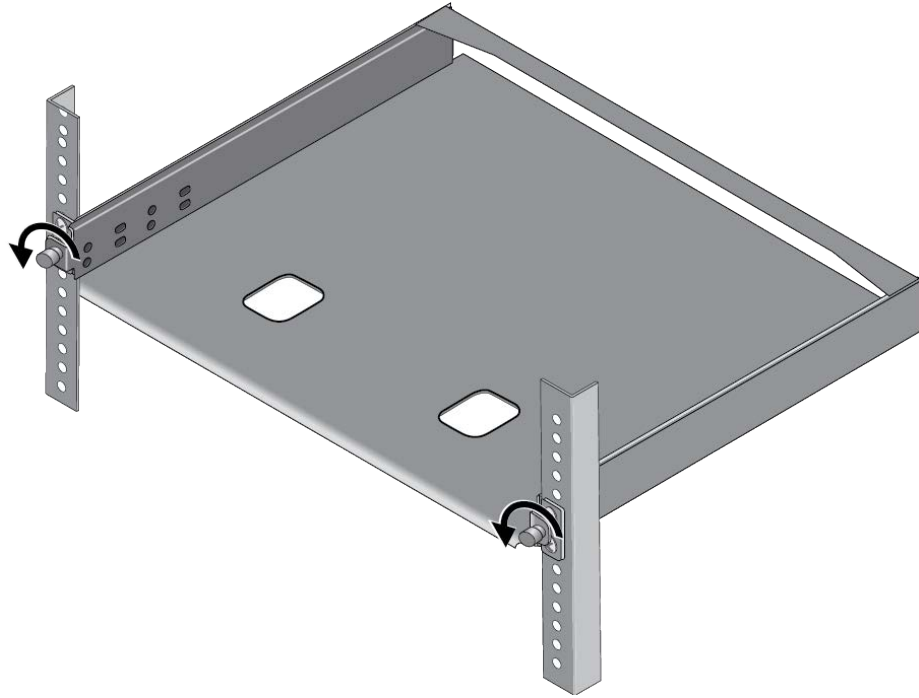

Figure 37. Loosening the Two Thumbscrews on the Front of the RKMT-J15 Bracket
2. Loosen the two thumbscrews on the front of the bracket. Refer to Figure 37 on page 66.